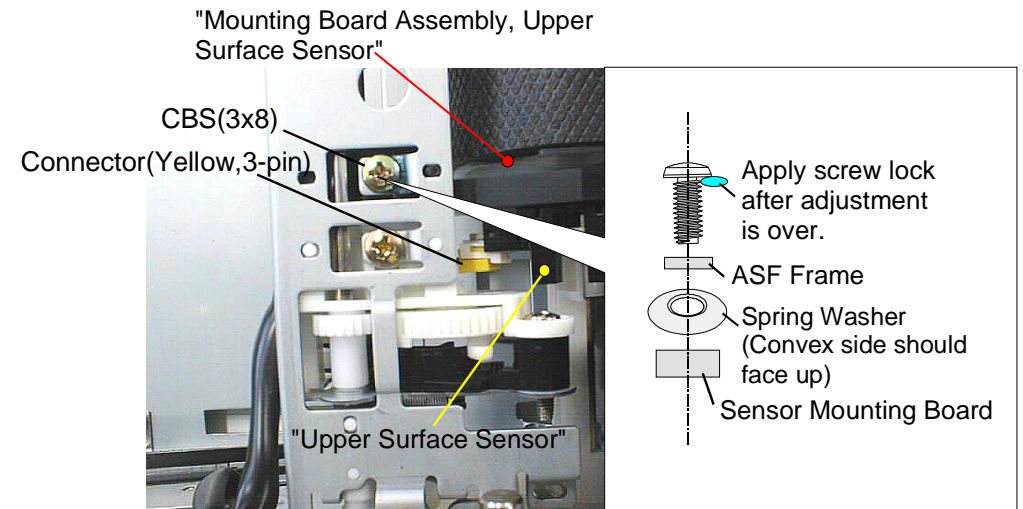

Figure 4-60. Upper Sensor Removal
3. Remove one CBS screw(3x8) securing "Upper Surface Sensor" to "ASF Unit", and remove "Upper Surface Sensor". (Refer to Figure4-60)
- ***When removing "Upper Surface Sensor" from "ASF Unit", one spring washer comes off. When re-assembling them, refer to Figure4-60 and install this spring washer so that its convex side should face to the ASF frame, and tighten the screw.***